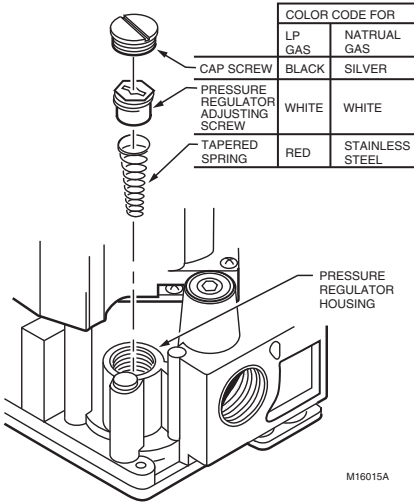

Fig. 2. Install conversion kit in regulated gas control.
4. Insert the replacement spring with the tapered end down. See Fig. 2.
If installing adapters on the gas control, mount them as shown in Fig. 2: